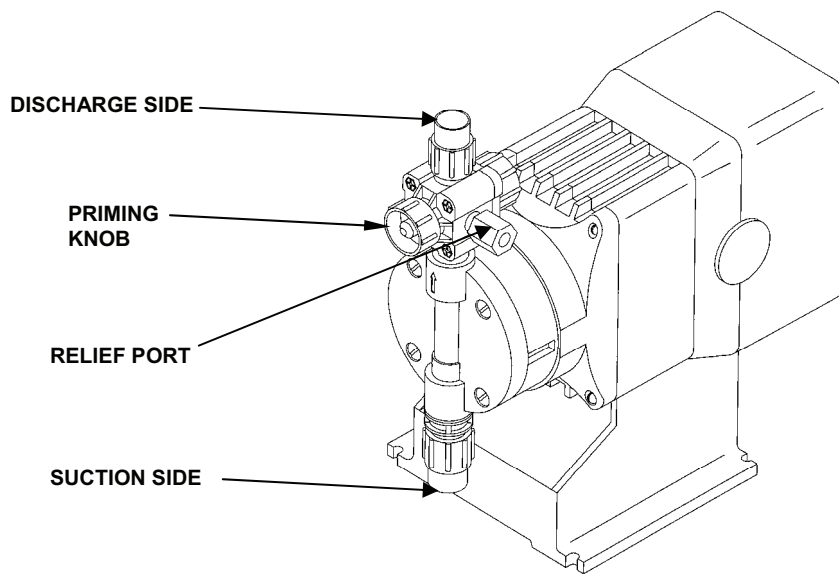

Figure 9. Chemical Injection Pump Rear.
2. While chemical injection pumps are running, pull out the priming knob and rotate quarter-turn. A small amount of fluid will begin to discharge from the relief port. See Figure 9.